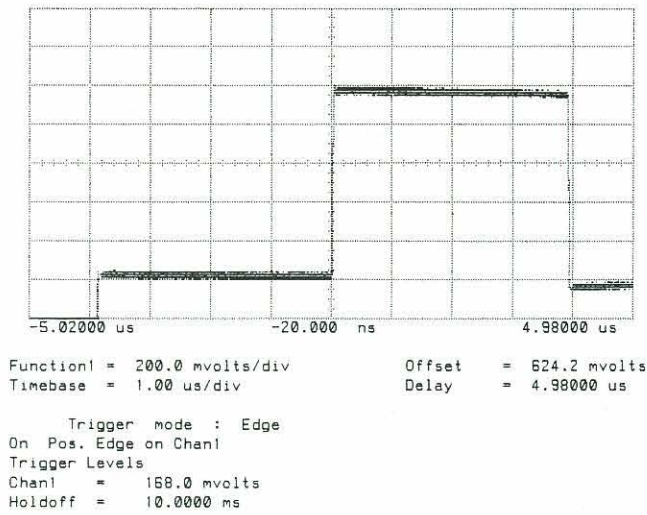

Figure 8-37 Isolated Positive Pulse
4. Adjust the Oscilloscope to obtain positive pulse as shown in Figure 8-37